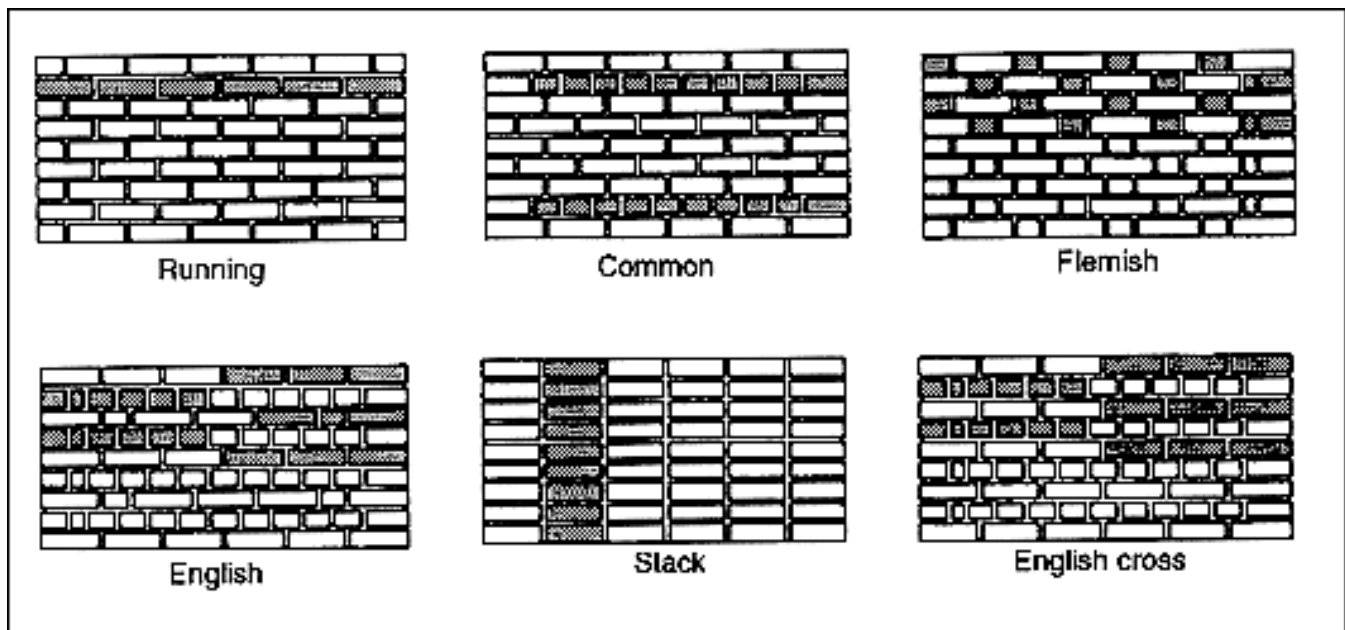

Figure 9-4. Types of masonry bond
- **Pattern Bond.** This is pattern formed by the masonry units and mortar joints on the face of a wall. The pattern may result from the structural bond or may be purely decorative and unrelated to the structural bond. Figure 9-4 shows the six basic bond patterns in common use today: running bond, common or American bond, Flemish bond, English bond, stack bond, and English cross or Dutch bond.
- **Stack bond.** This is purely a pattern bond, with no overlapping units and all vertical joints aligning. You must use dimensional-accurate or prematched units to achieve good vertical joint alignment. You can vary the pattern with combinations and modifications of the basic patterns shown in Figure 9-4. This pattern usually bonds to the backing with rigid steel ties, or 8-inch-thick stretcher units when available. In large wall areas or for load-bearing construction, insert steel-pencil rods into the horizontal mortar joints as reinforcement.